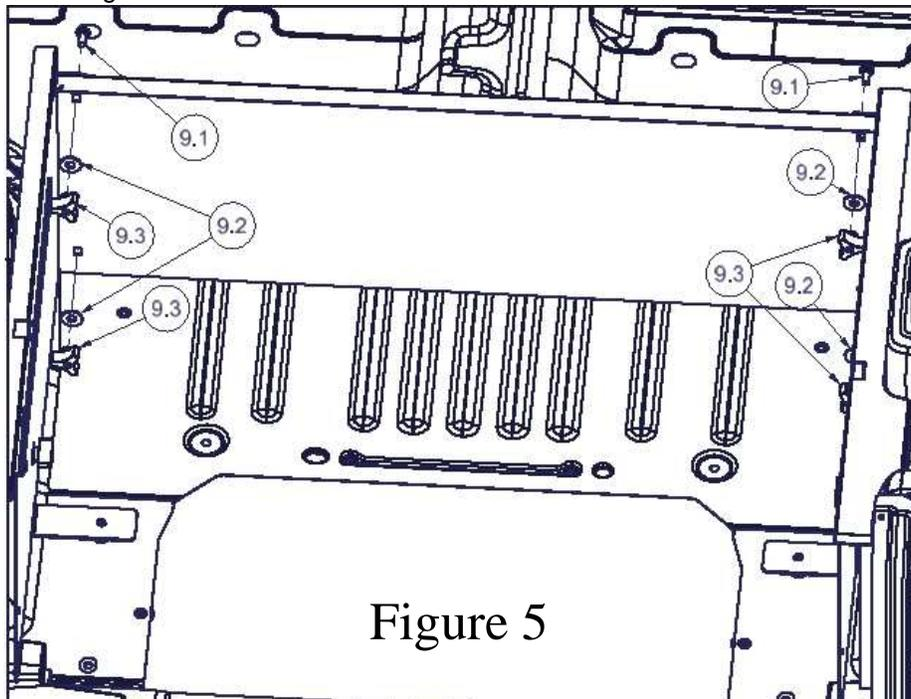

Figure 5
8. Install the #1 Front Panel to the #3 and #4 Side Panels using (4) #9.1 Carriage Bolts, (4) #9.2 Washers, and (4) #9.3 Knob Nuts, as shown in Figure 5.